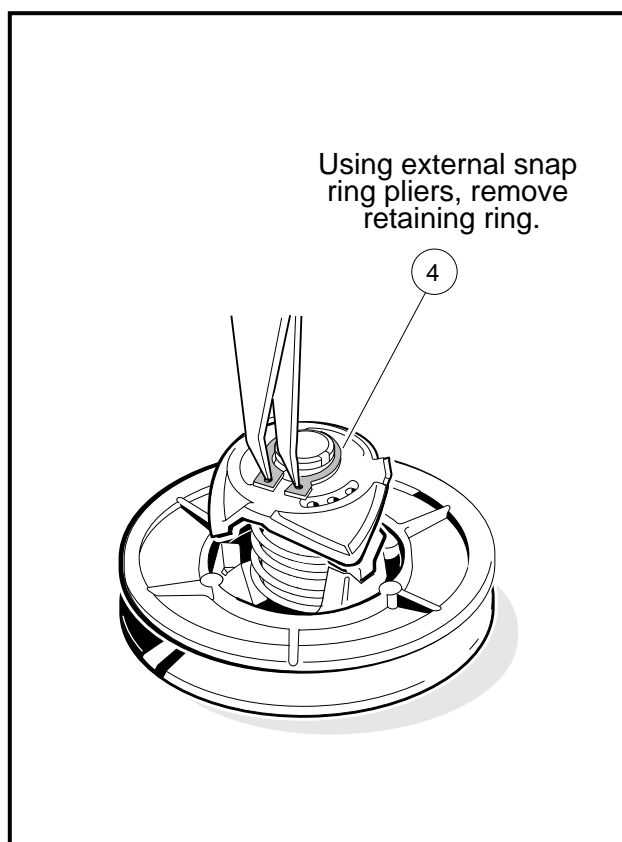

Figure 17-17 Remove Retaining Ring
1. Using external snap ring pliers, remove the retaining ring (4) (**Figure 17-17, Page 17-13**). See following **WARNING**.